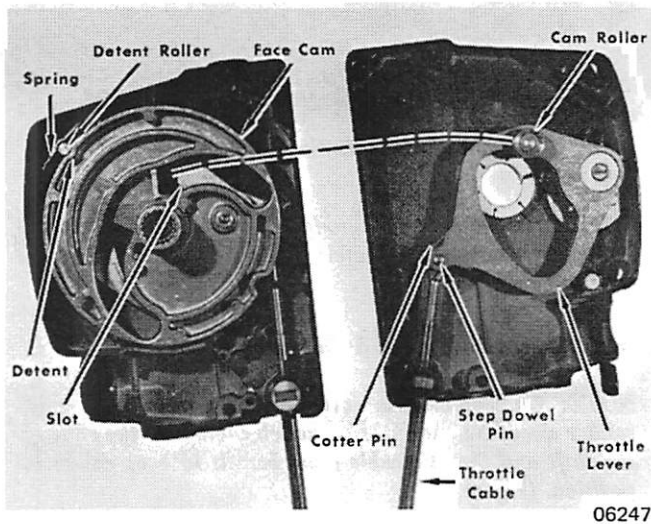

Figure 1. Control Station Halves
2. Remove detent springs and detent roller from left side housing. (Figure 1)
5. Install detent springs and detent roller. (Figure 1)
1. Remove cotter pin and step dowel pin from throttle lever. (Figure 1, right half)
2. Place Anti-Corrosion Grease into cable socket and install throttle cable into position. Coat step dowel pin with a thin film of Anti-Corrosion Grease and install step dowel pin thru throttle lever and throttle cable end. (Figure 1, right half)
1. Before placing halves together, be sure face cam and throttle lever are positioned as shown in Figure 1.
2. Place halves together. If housing halves do not fit together, cam roller is not entering face cam slot. Reposition as shown in Figure 1.